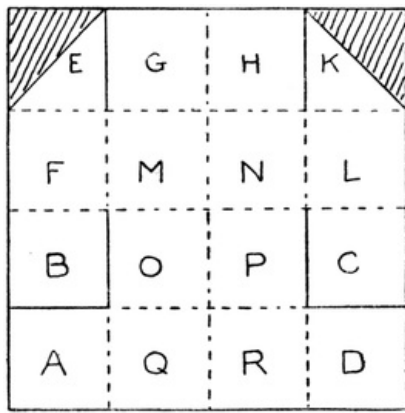
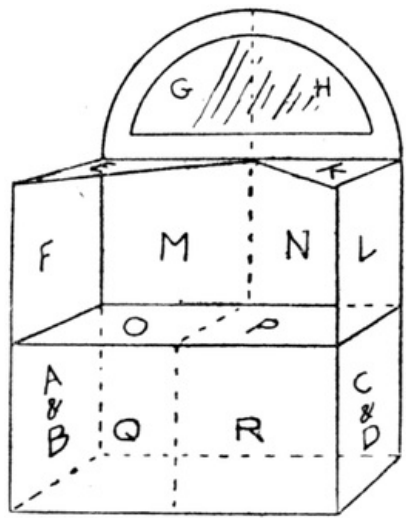

FIG. 33
FIG. 34
**A Drawing-room Cabinet.** Fold and cut square as in Fig. 33. Gum B over A, C over D. Bend E and K down and cut corners off to form shelves as in Fig. 34. G H can be cut round, or in any way to make suitable top for cabinet. Silver paper can be pasted on where desired for mirrors, doors cut or drawn, etc. From Fig. 33 the children will be able to make a number of simple and effective articles of doll's furniture—namely, doll's dresser, oak settee for hall, dressing-table, wash-stand, writing-case. These the children must be allowed to suggest and think out themselves.